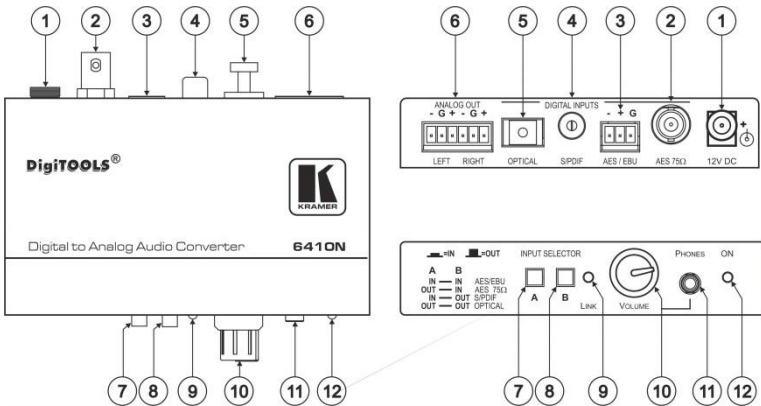

Figure 2: 6410N Digital to Analog Audio Converter
Figure 2 defines the **6410N** *Digital to Analog Audio Converter*:
Set the digital input standard by pushing in and/or releasing one or both of the two INPUT SELECTOR switches (item 7 (button A) and item 8 (button B), in Figure 2) on the **6410N** *Digital to Analog Audio Converter*.